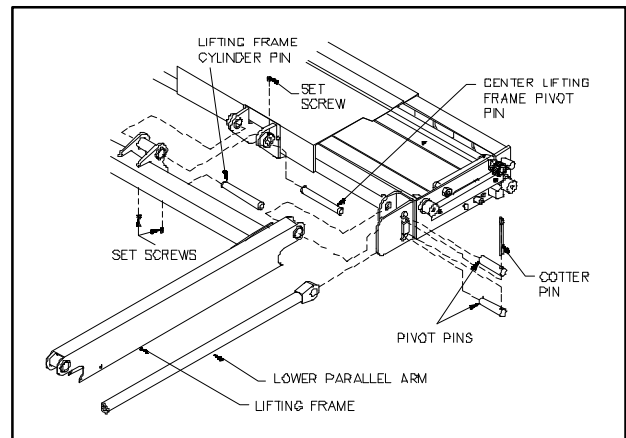

FIGURE 4-7: LIFTING FRAME REMOVAL
6. Refer to **Figure 4-7**. Remove the cotter pin retaining the pivot pins to the carriage.